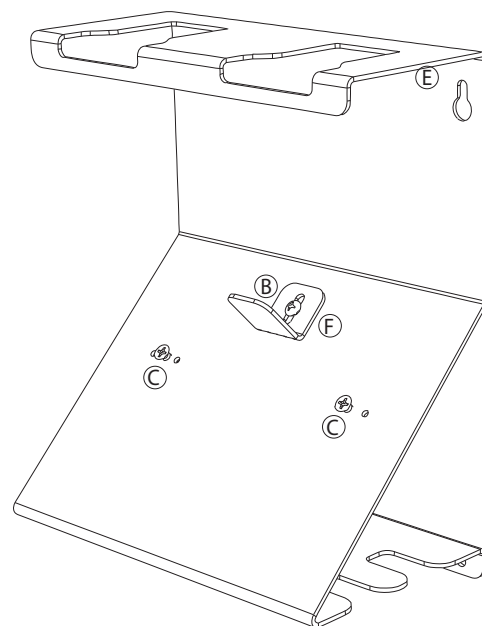

FIG. 2
Using the supplied qty 2, #8 x 1/2" (C) Flat Screws, install them directly into the metal hole using a drill or impact driver. (FIG. 2) These are self tapping screws and will form threads as you install the screws. Leave them about an 1/8" off the surface. Install the charger over the two screws and slide the charger down to lock it in. If the charge will not slide down the screws, the height of the screws needs to be adjusted. Re-adjust untill the charger fits securely.